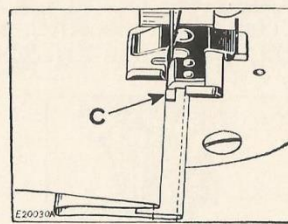

FIG. 241
- f—Place this stitched edge under the attachment with the fold against the guide (C), as shown in Fig. 241. Adjust the guide (C) to the type of fabric, lower the presser bar and proceed to blind stitch the hem.